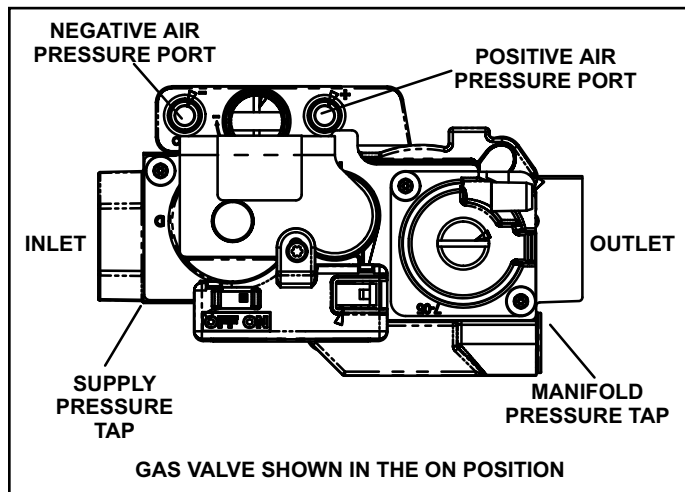

Figure 48. Gas Valve
See Figure 48
6. Move gas valve switch to OFF. See Figure 48.
8. Move gas valve switch to ON. See Figure 48.